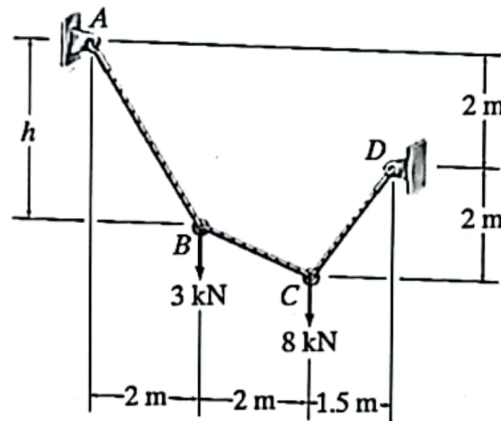

Fig. 5
| b) Determine the tension in each segment of the cable and dimension $h$ shown in Fig. 5. | (30)  | 4    |